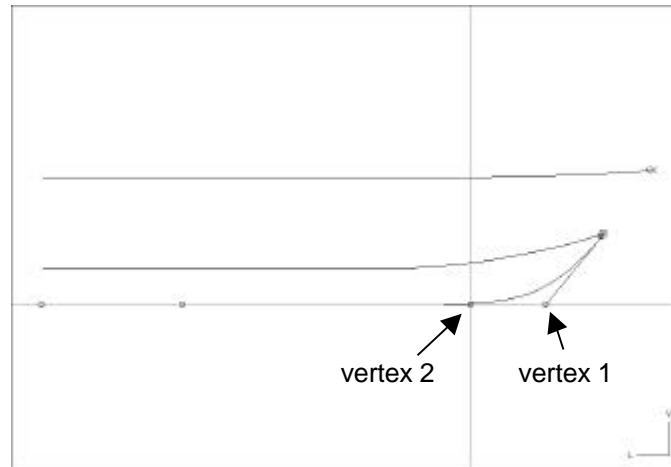

Figure 1-10: Fairing the stem
4. Adjust the curvature of the fore foot by moving *vertex 2* of the *Centreline* directly forward. (See Figure 1-10.)